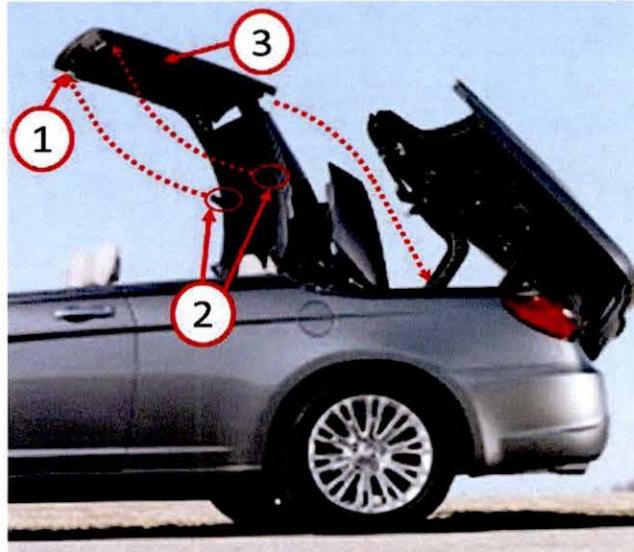

Fig. 1 Hard Top Down Capture System
The hard top may produce a rattle noise coming from the down capture receiver rod/latch assembly (3) while the hard top is in the up position. The hard top may also produce a clunk noise while in the stowed position when lowered due to insufficient retention of the hard top if the hook assembly (2) does not fully engage the down capture mechanism (1) (Fig. 1). If the customer describes the symptom, perform the Repair Procedure.